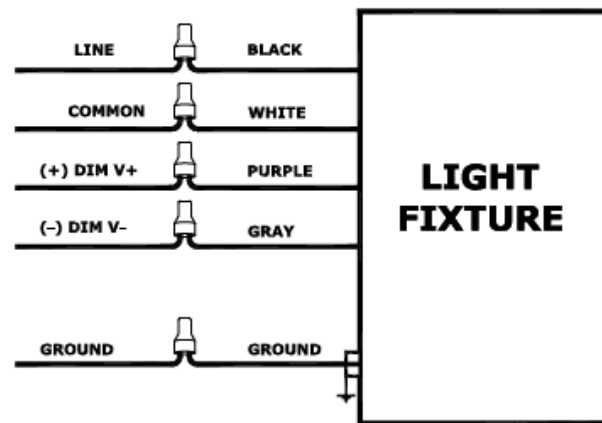

Fig. 1
2. Remove the existing lamps and trim. (Fig. 1)
2. Attach the carabiner safety clip to a secure place inside the ceiling. (Fig. 1)